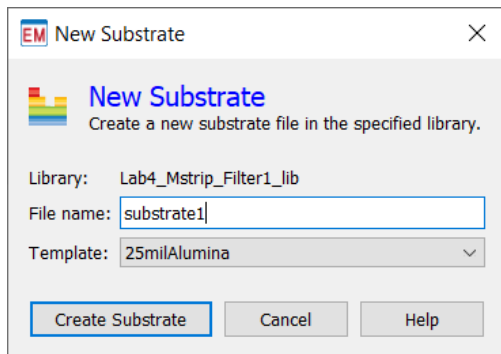

Figure 12. Create New Substrate Window
4. In the emSetup box that appears, select the **Substrate** tab, and click **New**. After naming the substrate, click **Create Substrate** to accept the 25 mil Alumina template. We can modify the properties of the same to suit our applications. This window is shown in Figure 12.